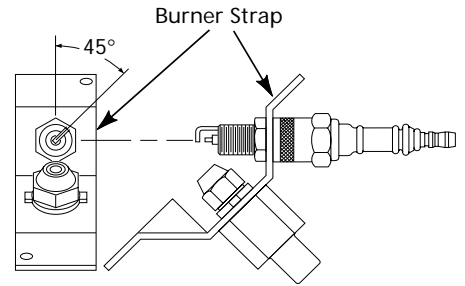

Figure 21 - Spark Plug Rotation, Models 2E510D and 2E511D
10. Replace burner strap onto spark plug. Rotate burner strap to position spark plug electrodes (see Figure 21).